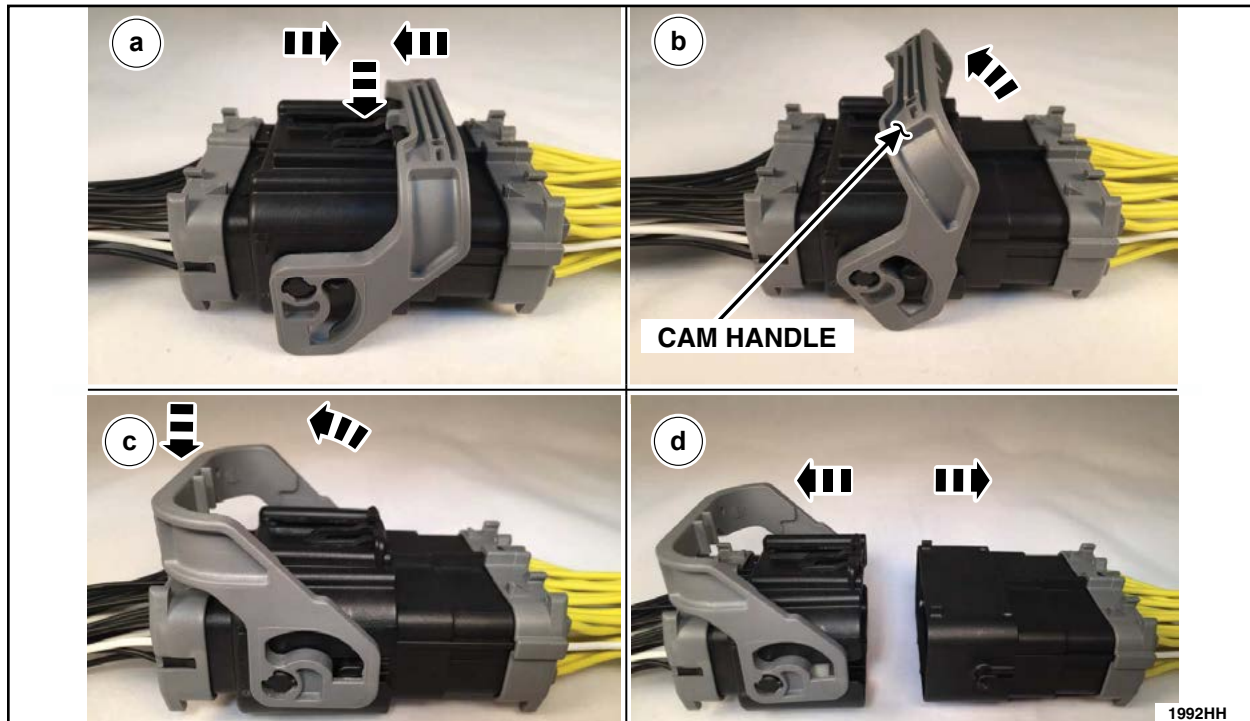

FIGURE 15
15. Release the connector lock and open the connector C422. See Figure 15.